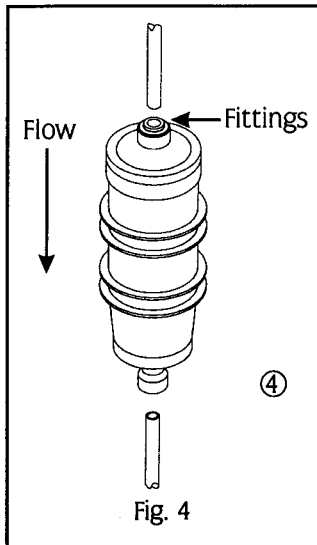

Fig. 4
17. Repeat steps 5, 6, 9, and 11 for replacement of the activated carbon ② and RO membrane ③ filter cartridges.
19. Note the direction of flow and disconnect the tubing from the polishing filter. ④ Fig. 4.